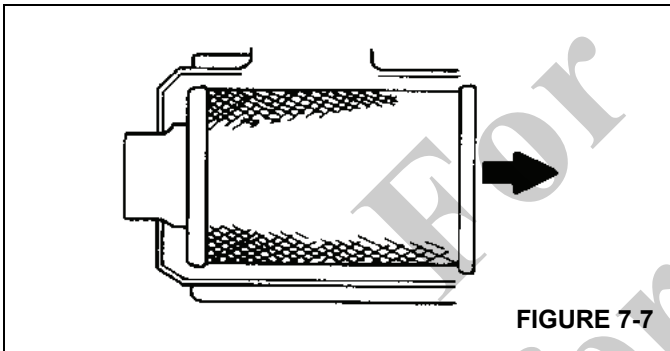

FIGURE 7-7
- b. **AVOID DISLODGING DUST FROM THE FILTER.** Gently pull the filter off the outlet tube and out of the housing. Avoid knocking the filter against the housing (Figure 7-7).